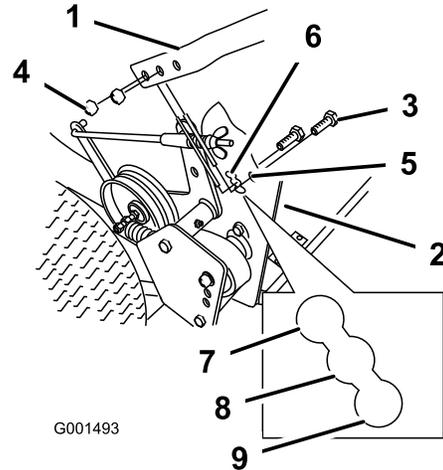

Figure 19
- Loosen the upper bolts (3/8 x 1-1/4 inches) and flange nut securing handle to rear frame (Figure 19).
- Remove the lower bolts (3/8 x 1 inch) and flange nuts securing handle to rear frame (Figure 19).